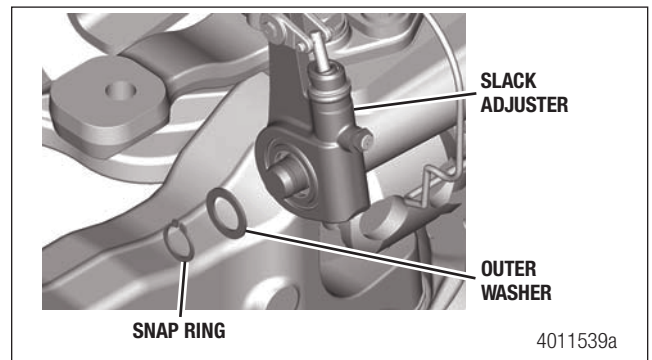

Figure 5.16
1. Remove the slack adjuster retaining ring at the adjuster end of the camshaft. Figure 5.16.